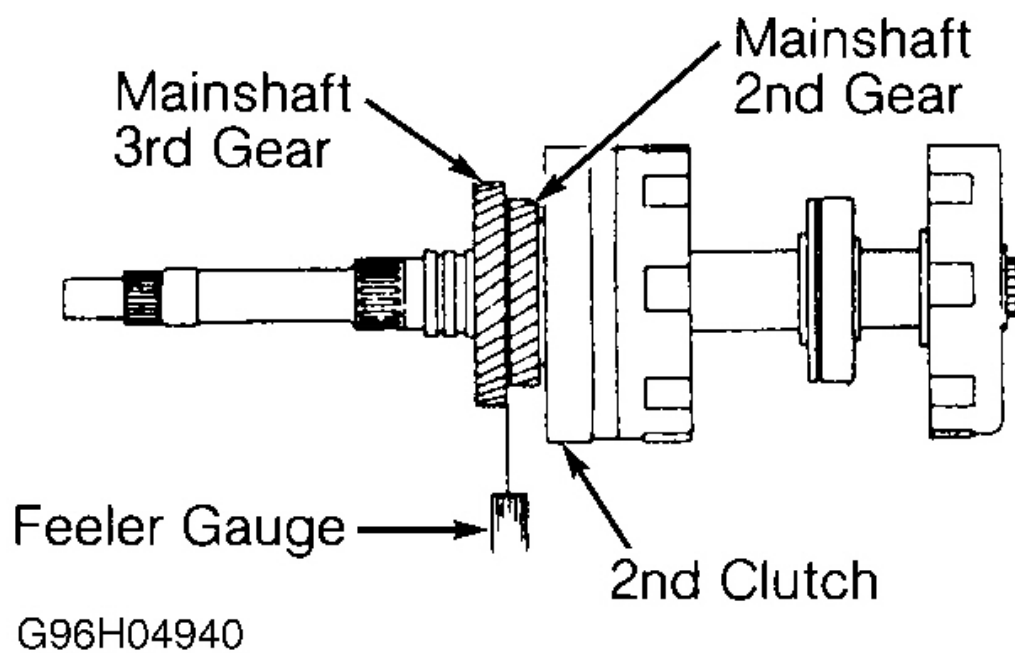

Fig. 19: Measuring Mainshaft 2nd Gear-To-3rd Gear Clearance
2. Using feeler gauge, measure clearance between mainshaft 2nd and 3rd gears. See **Fig. 19** . If mainshaft 2nd gear-to-3rd gear clearance is not .002-.005" (.05-.13 mm), replace thrust washer. Thrust washer is located between mainshaft 2nd gear and 2nd clutch. Washers range in thickness from .157" (4.00 mm) to .175" (4.45 mm) in increments of .002" (.05 mm). Replace as needed and recheck mainshaft 2nd gear-to-3rd gear clearance.